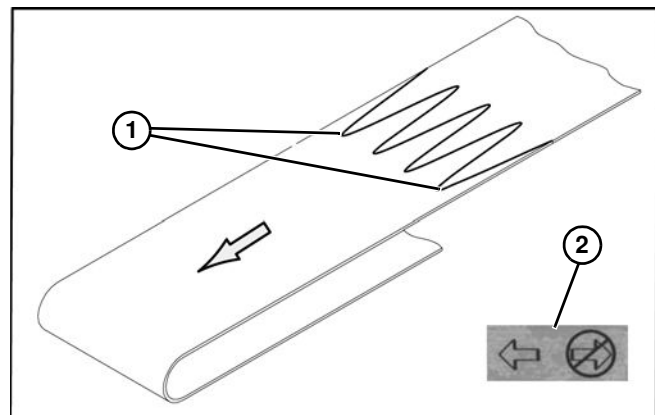

Figure 88
2. Orient belt so splice outer fingers (**Figure 88, item 1**) point in the direction of belt travel as identified by the conveyor directional label (**Figure 88, item 2**).